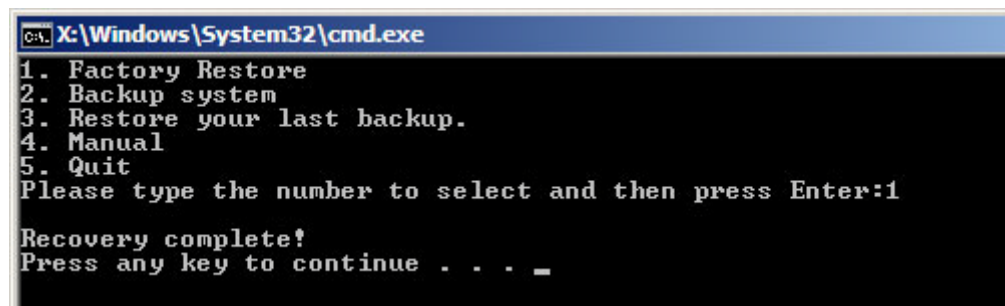

Figure C-28: Recovery Complete Window
Step 3: The screen is shown as in **Figure C-28** when completed. Press any key to reboot the system.